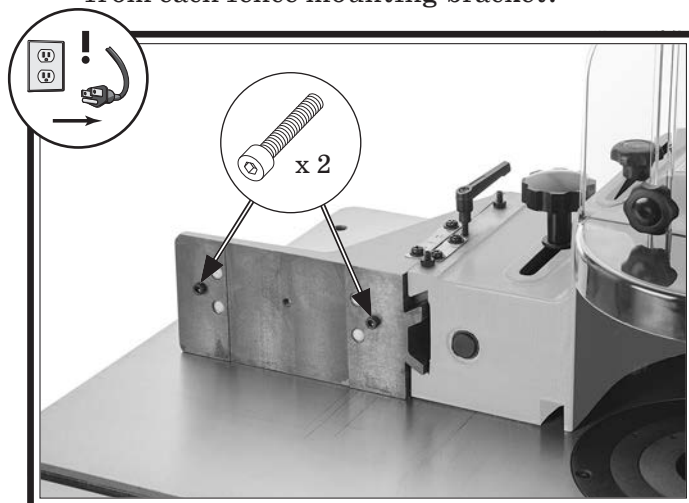

Figure 61. Fence mounting bracket cap screw location.
3. Remove (2) cap screws shown in Figure 61 from each fence mounting bracket.